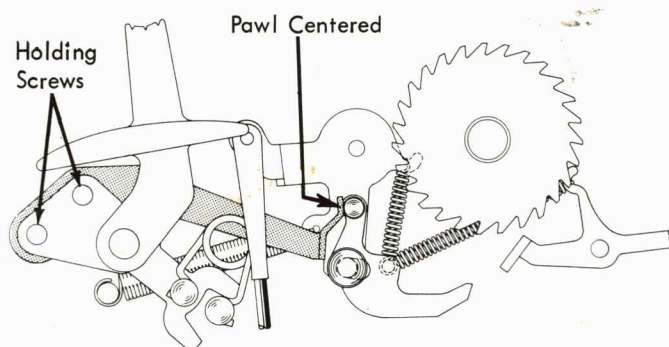

FIGURE 156. Vertical Adjustment Of Index Selection Cam
- b. Adjust the selection cam up or down so that the index pawl is centered on the cam surface with the selection lever in the single line space position (Fig. 156).